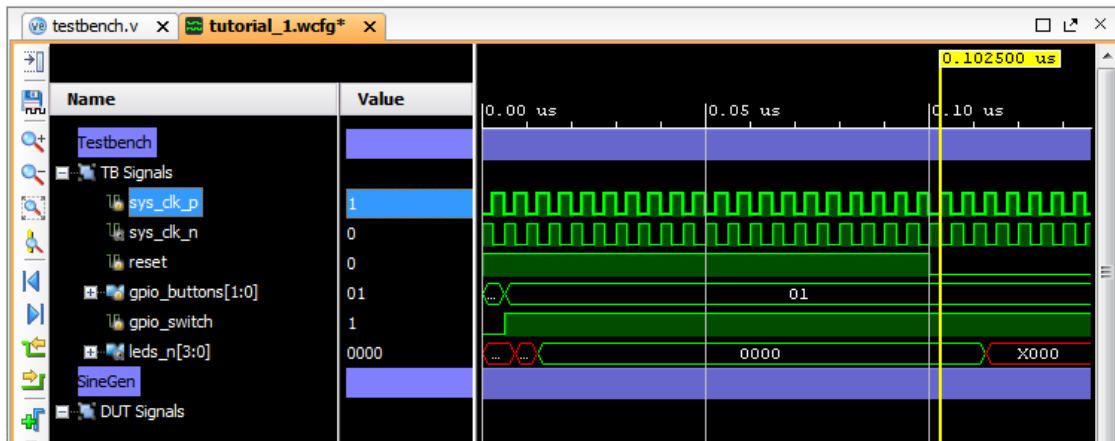

Figure 27: Viewing Reset and Clock Signals
- Continue to zoom** in the Waveform window as needed, until you can **see the reset signal** asserted low, and you can **see the waveform of the clock** signals, `sys_clk_p` and `sys_clk_n`, as seen in Figure 27.
10. Because 00 is the initial or default FSM output, **move** the cursor **to** the **first posedge** of `sys_clk_p` after `reset` is asserted low, at time 102.5 ns, as seen in Figure 27.